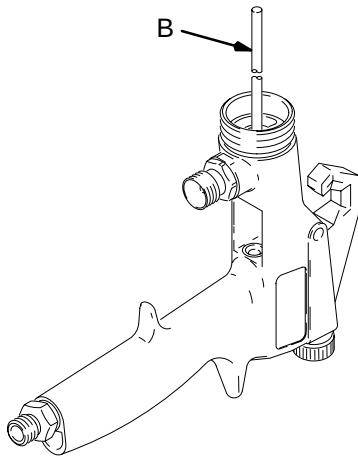

Fig 8 0533
2. Remove the air cap ring (12), air cap (17), and fluid nozzle (18).
3. Remove the fluid adjusting nut (8) and spring (16); the knob (9) will come out with it. Remove the second spring (15), *included with standard non-bleeder guns only*.
4. Hold the fluid shaft (7a) while removing the fluid needle (19). Pull the fluid shaft out the back of the gun.
5. Insert the packing removal tool (B) through the front of the gun and push on the u-cup seal (7b) until the seal and seal retainer (7c) are pressed out of the trigger area. See Fig 8.